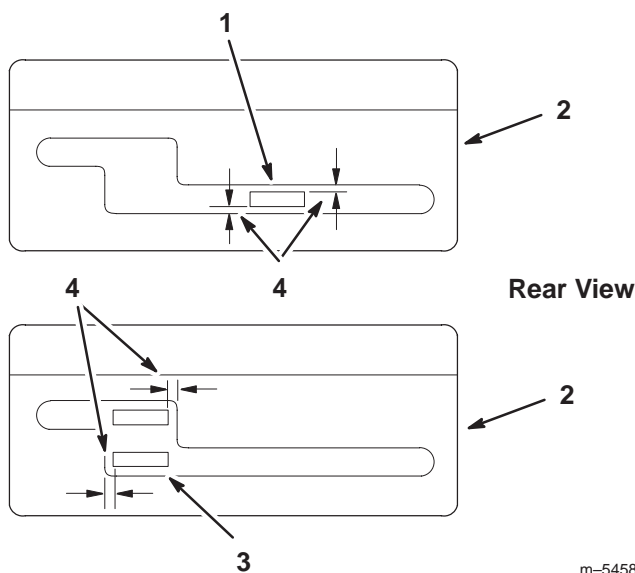

Figure 5
5. Shift lever to second gear and check alignment of lever in slot of shifter plate. The clearance between top and bottom of the shift lever should be equal (Fig. 5).
7. Shift lever to neutral and check alignment of lever in slot of shifter plate. The clearance on the sides of shift lever should be equal (Fig. 5).